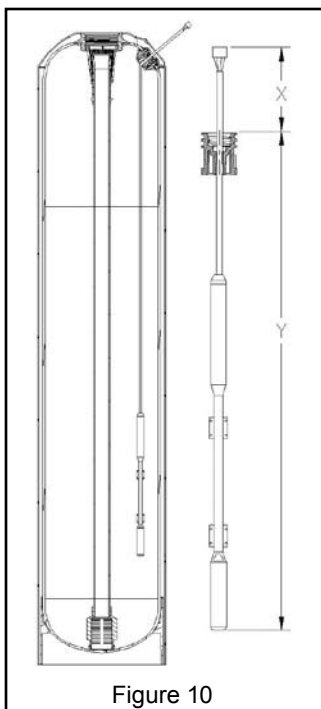

Figure 10
3. Install the outlet manifold into the tank (Figure 10).
- A. Measure the sensor cable length as shown in Figure 10 and Table 1 (the Aqua-Sensor cord is set at the factory for a 9" tank).